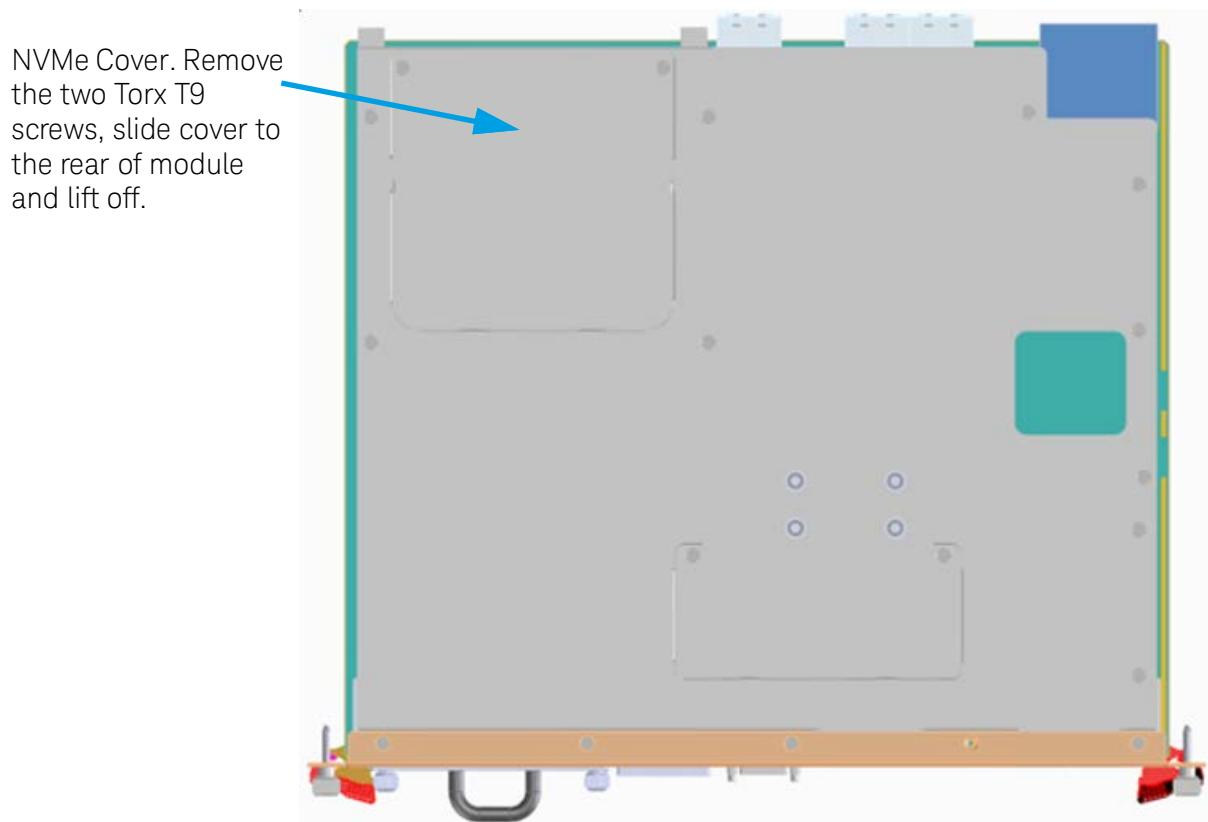

Figure 4 Optional Rear NVMe SSD Cover. Use a T9 Torx Screwdriver to Remove.
- 3 Remove the NVMe SSD cover. See Figure 4 on page 50. If you have installed an NVMe SSD, you will need to remove it. See "Removing the Optional Rear NVMe Drive" on page 49.
- 3** Remove the NVMe SSD cover. See Figure 4 on page 50. If you have installed an NVMe SSD, you will need to remove it. See “Removing the Optional Rear NVMe Drive” on page 49.
- 4** Locate and remove the CMOS battery. Press the battery release latch (1). The battery should pop out (2).